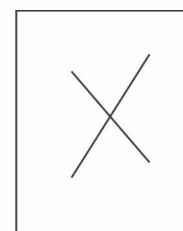

Fig. 7.4: A cross drawn on a piece of paper.
- Keep the microscope in the vertical position. Mark a cross on a small piece of paper with a pen (Fig. 7.4) and place it below the objective.